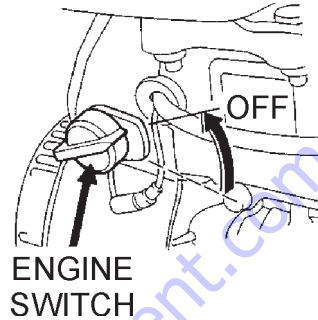

Figure 11. Engine ON/OFF Switch (OFF Position)
1. Move the throttle lever to the **IDLE** or **SLOW** position (Figure 11) and run the engine for three minutes at low speed.
2. After the engine cools, turn the engine **start/stop switch** to the **OFF** position (Figure 11).